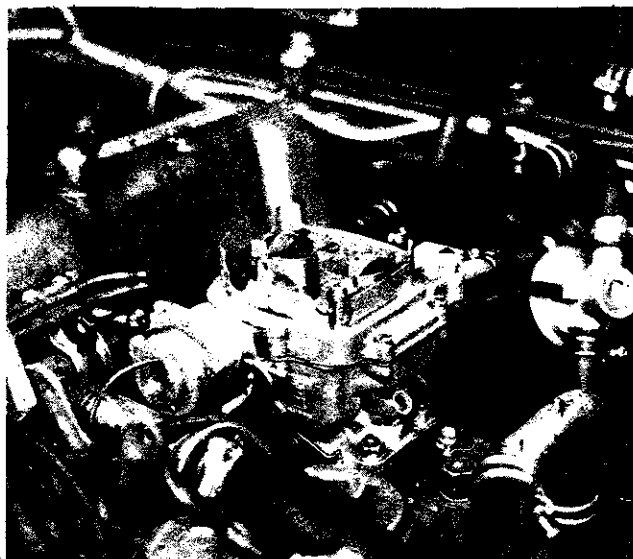

Figure 5
16. Install Weber carburetor on manifold with choke assembly toward the front of the vehicle. See figure 5.